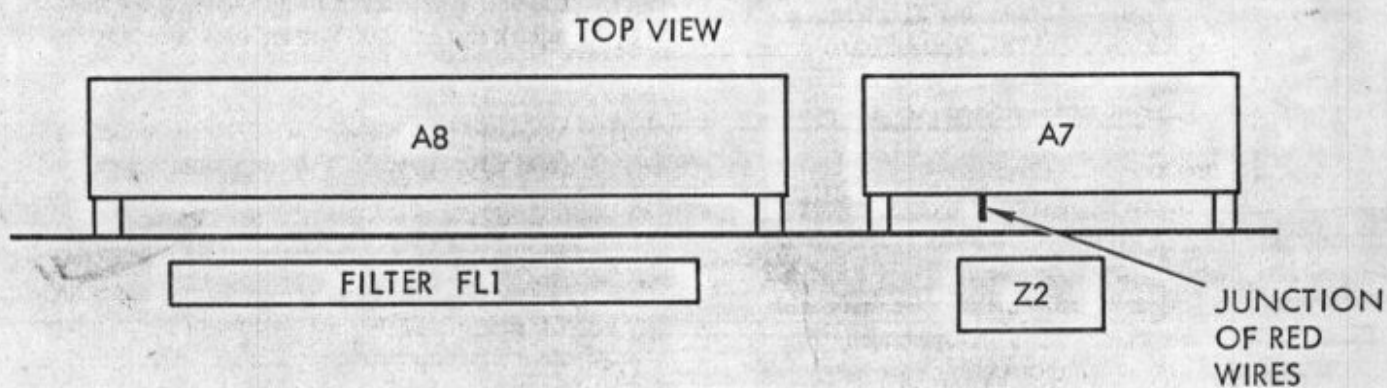

Figure 4-1. Junction Point, A7
4.4.5 With power off, measure resistance to ground from junction point of red wires on A7 (see figures 4-1 and 6-6). The value should be greater than 20 ohms. If not, there is a short in the power supply.